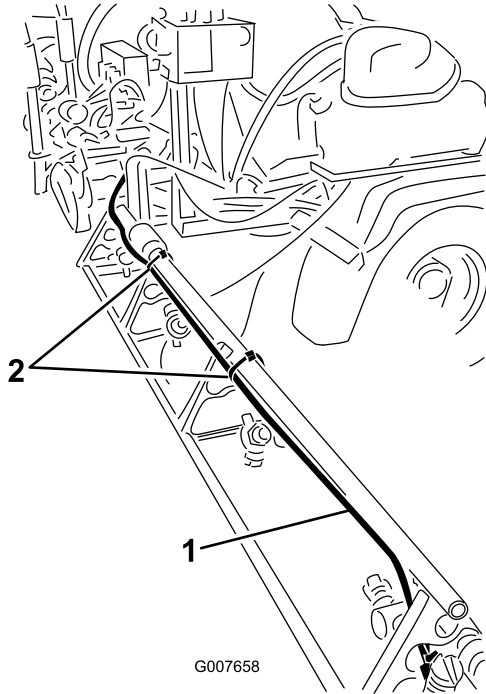

Figure 10
1. Remove the cable ties that secure the liquid and air tubes of the foam marker kit to the outer boom section (Figure 10).